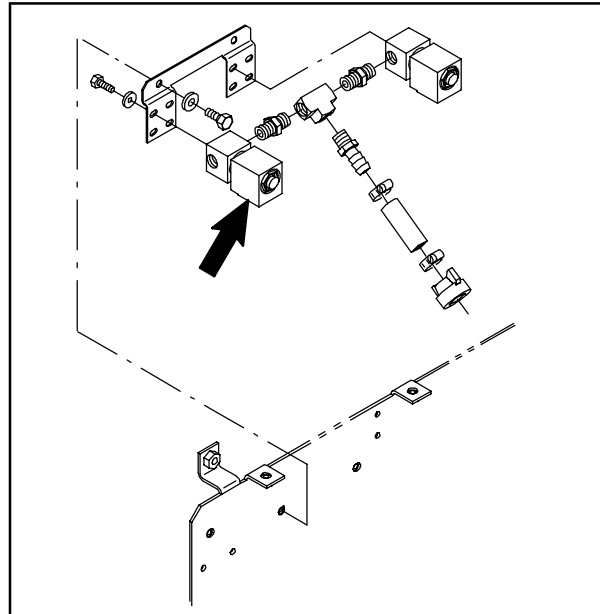

FIG. 6
13. Disconnect the fittings from the existing low level valve. Refer to Fig. 6.
14. Disconnect the low level valve wires and remove the low level valve from the bracket. Set hardware aside. Discard the low level valve. Refer to Fig. 6.
15. Use set aside hardware to install the new low level valve (4) onto the machine. Reconnect all wires and fittings. Refer to Fig. 6.